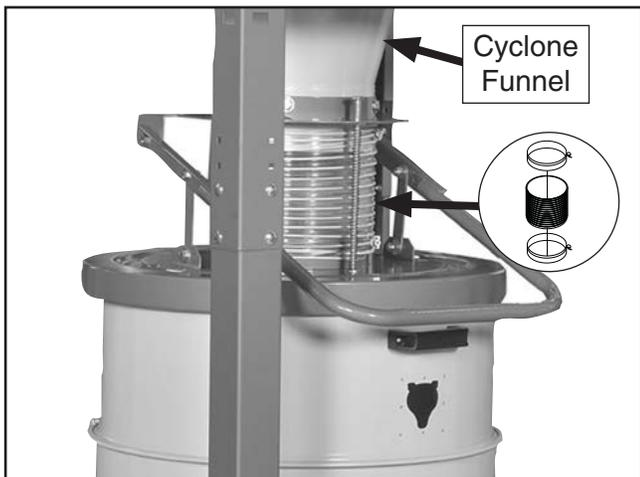

Figure 26. Cyclone funnel connected to drum lid with flexible hose.
37. Connect bottom of cyclone funnel to collection drum lid with 9" flexible hose and (2) 9" hose clamps (see **Figure 26**).